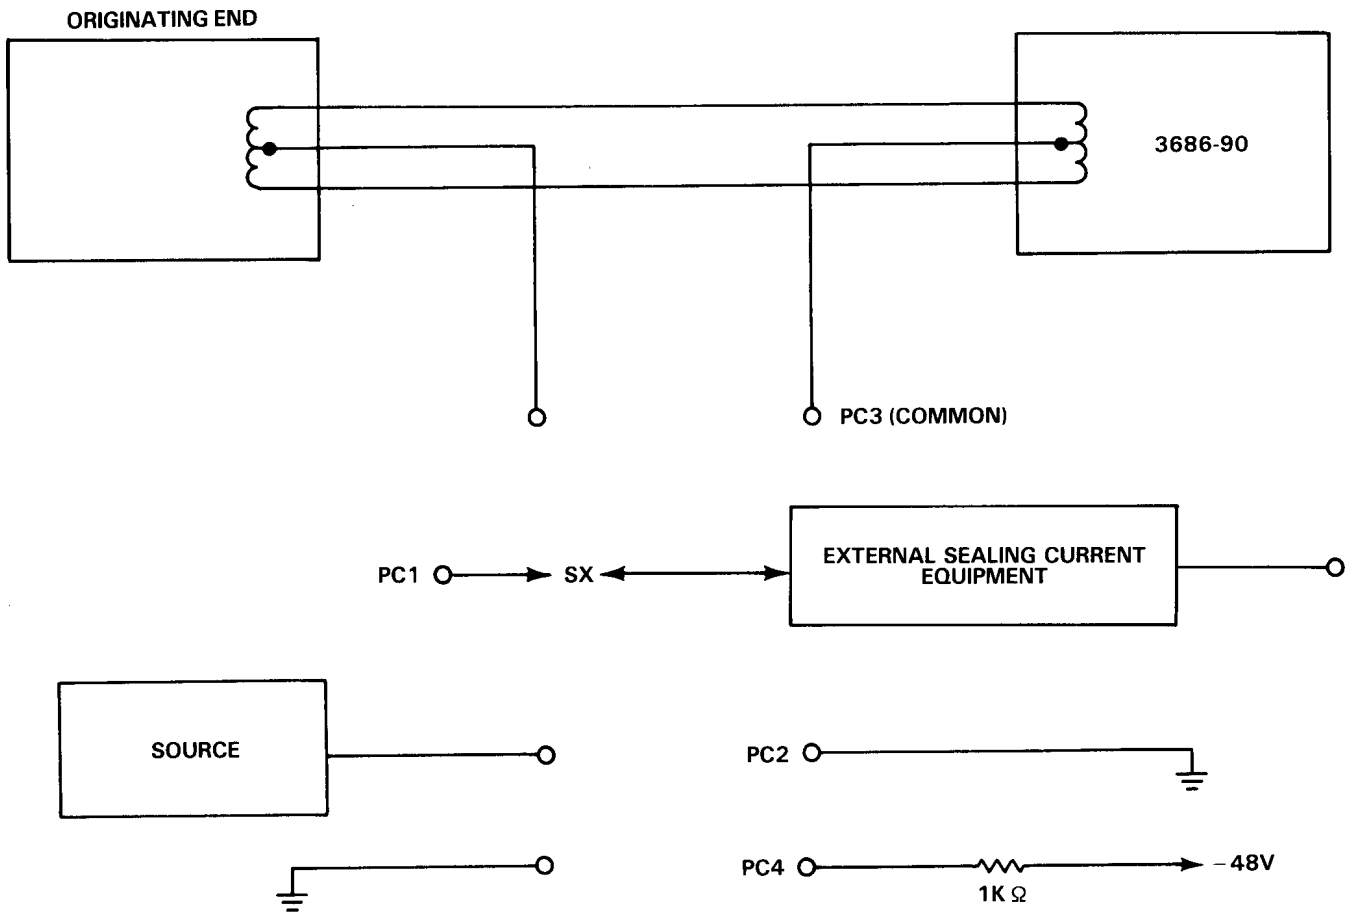
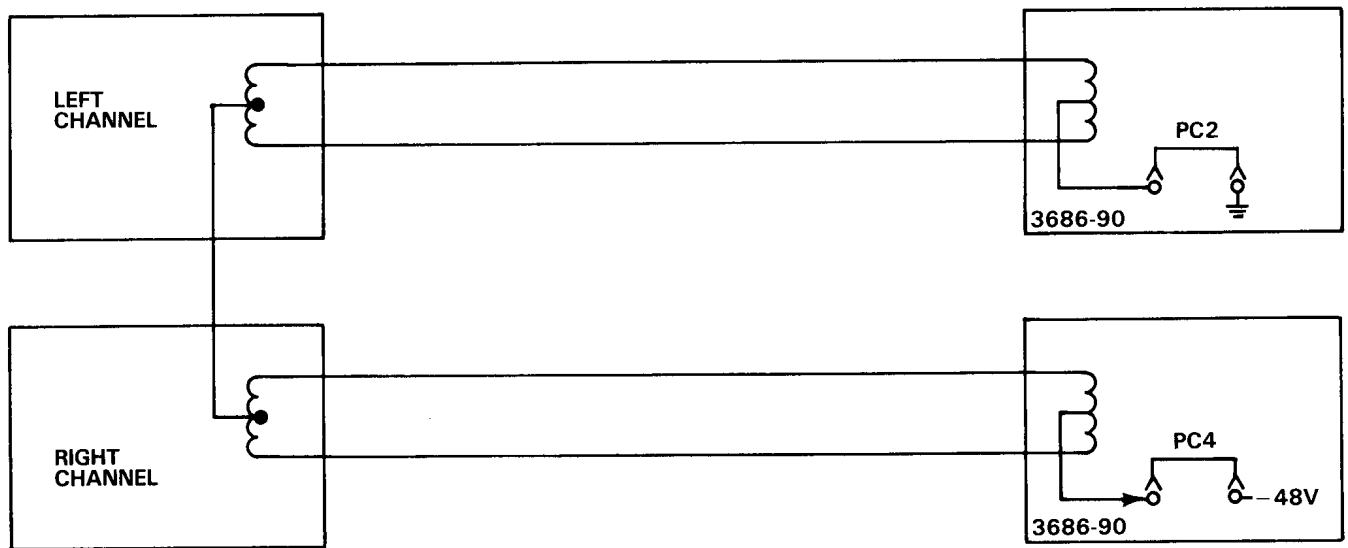

Figure 4. Typical Applications for Different Optioning Positions
Figure 5. Stereo Sealing Current Lead Configuration
PC3 is a push-on jumper option used to obtain sealing current optioning. Three positions are available for this application: PC1 to PC3 for external sealing current equipment (SX); PC2 to PC3 for ground return; or PC4 to PC3 for negative source of sealing current (limited to 50mA). Sealing current is used to prevent contact deterioration and reduces contact noise in nonsoldered cable connections. When sealing current is not used, one sealing current lead of each channel should be grounded at one end with the other end open. Figure 4 and Figure 5 show four typical applications of sealing current optioning.